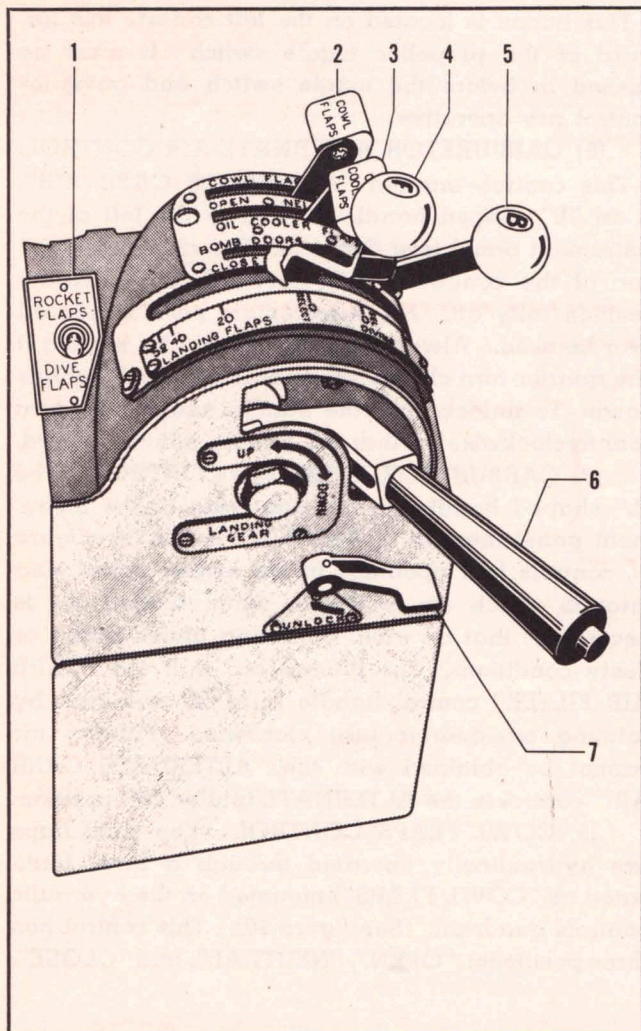

Figure 10—Hydraulic Controls Quadrant
(8) COWL FLAPS CONTROL.—The cowl flaps are hydraulically operated through a lever (indicated as "COWL FLAPS") mounted on the hydraulic controls quadrant. (See figure 10). This control has three positions: "OPEN", "NEUTRAL", and "CLOSE".
Parts list for figure 10.
(2) WING FLAPS CONTROL.—The selection of both landing and diving flaps is controlled by the flap selector control (see figure 10), located on the hydraulic controls quadrant. This control consists of a single lever (indicated by "F" on the handle), moving in a slot marked as follows: "LANDING FLAPS", "O", "SELECT", "0", "40", and "52"; and "DIVING FLAPS", "O", "SEL", and "35", to indicate the degree of flap opening. To obtain a given landing flap angle, move the control lever to